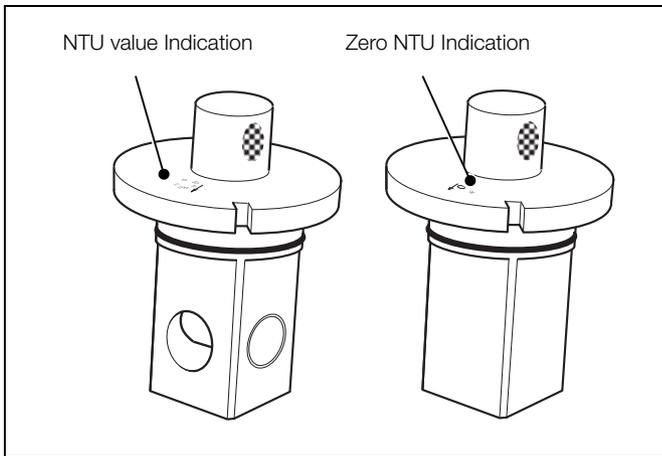
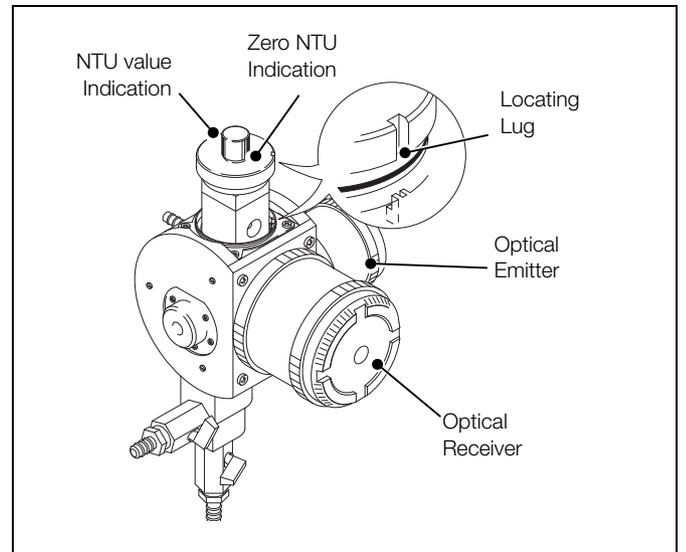

Fig. 7.5 Dry Calibration Standard for Low Range Sensors
Fig. 7.7 Inserting Dry Standard
6. Insert the dry calibration standard with the zero NTU indication (see Figs 7.5 or 7.6, page 23) facing the optical receiver, ensuring the locating lug engages correctly – see Fig. 7.7.